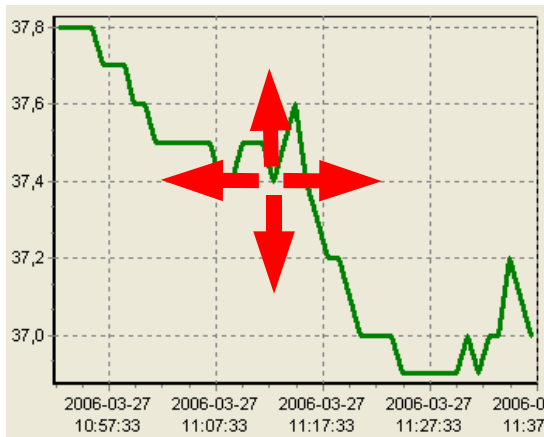

Figure 4.10. Moving the graph
- moving the graph** - the graph can be moved to the left/right (earlier/later time period, correspondingly) or to the down/up (lower/higher measurements range, correspondingly) . In order to do this, right-click on the graph and drag the pointer in desired direction (Figure 4.10).